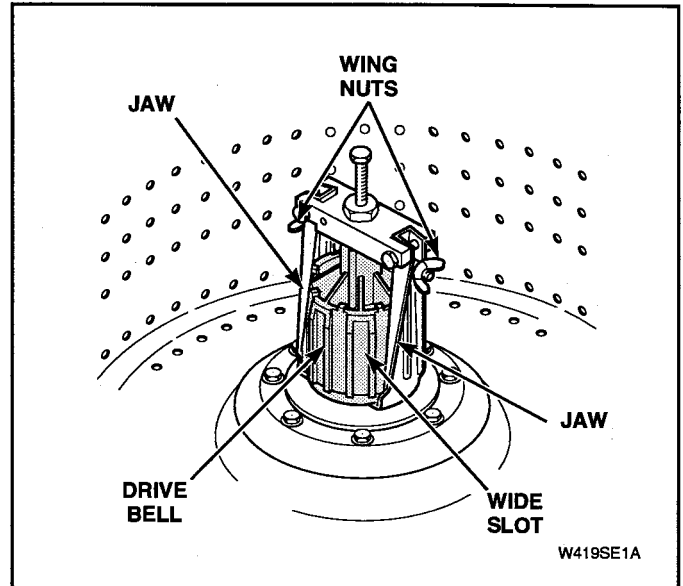

Figure 5-13
- Place tool over drive bell, making sure indent on jaws line up with wide slots on drive bell. See Figure 5-13.
- f. Place lip of each jaw under bottom edge of drive bell, making sure indent on jaws line up with wide slots on drive bell. Tighten wing nuts on tool to hold jaws firmly against drive bell. See Figure 5-13.